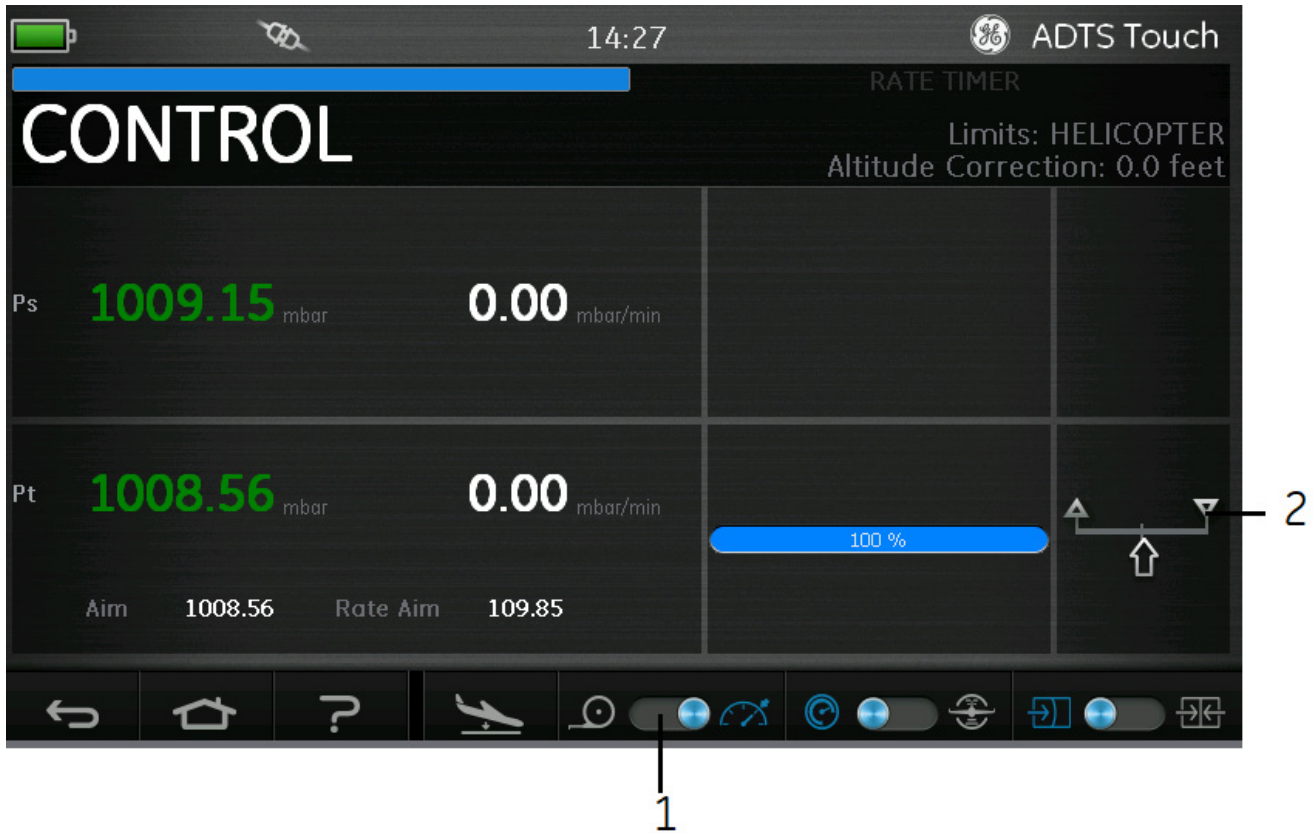

Figure 3-55: Pt Only control mode
Figure 3-55 shows that the Ps channel is in **Measure** mode and the Pt channel is in **Control** mode, as shown by the indication (2).